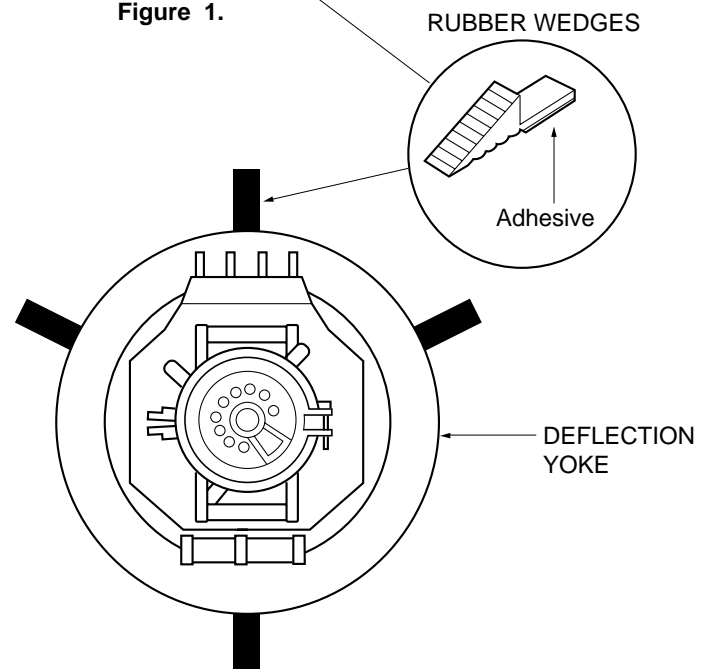

Figure 2.
9. Put four wedges into the space between the picture tube and the yoke to hold the yoke in the adjusted position. (See figure 2.)